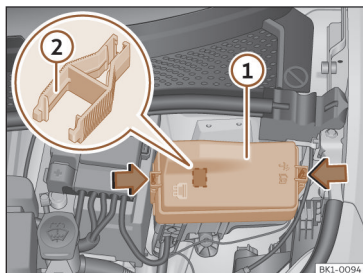

Fig. 193 In the front compartment: fuse box cover.
- Press the locking tabs to unlock the fuse box cover >>> **Fig. 193** ①.
In the fuse box there may be plastic tweezers for removing fuses >>> **Fig. 193** ②.